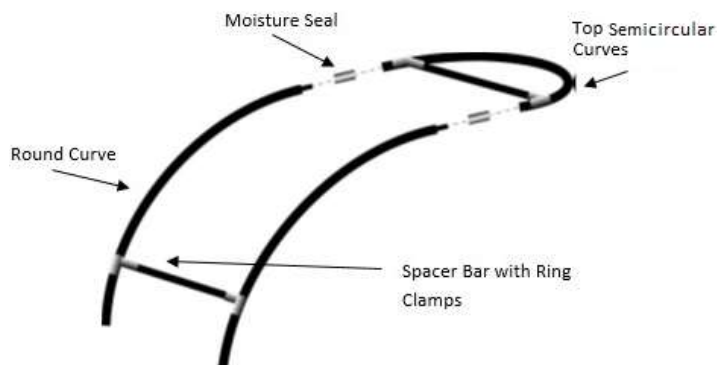

Figure 2: Attach the top curve to the Round Curve
5. Attach a spacer bar onto the bottom of the Round Curves, position the spacer bar so it is 50" away from the spacer bar attached onto the Top Curves, see Figure 2.